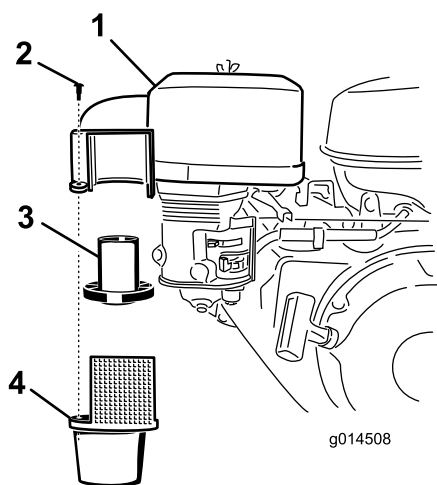

Figure 39
2. Remove the cyclone housing with the air intake screen, and remove the air guide (Figure 39).
5. Align the air intake screen of the cyclone housing with the opening in the air filter cover. Carefully assemble the cyclone housing the filter housing (Figure 39).
6. Secure the cyclone housing to the air filter cover with the screws removed in step 1 (Figure 39).